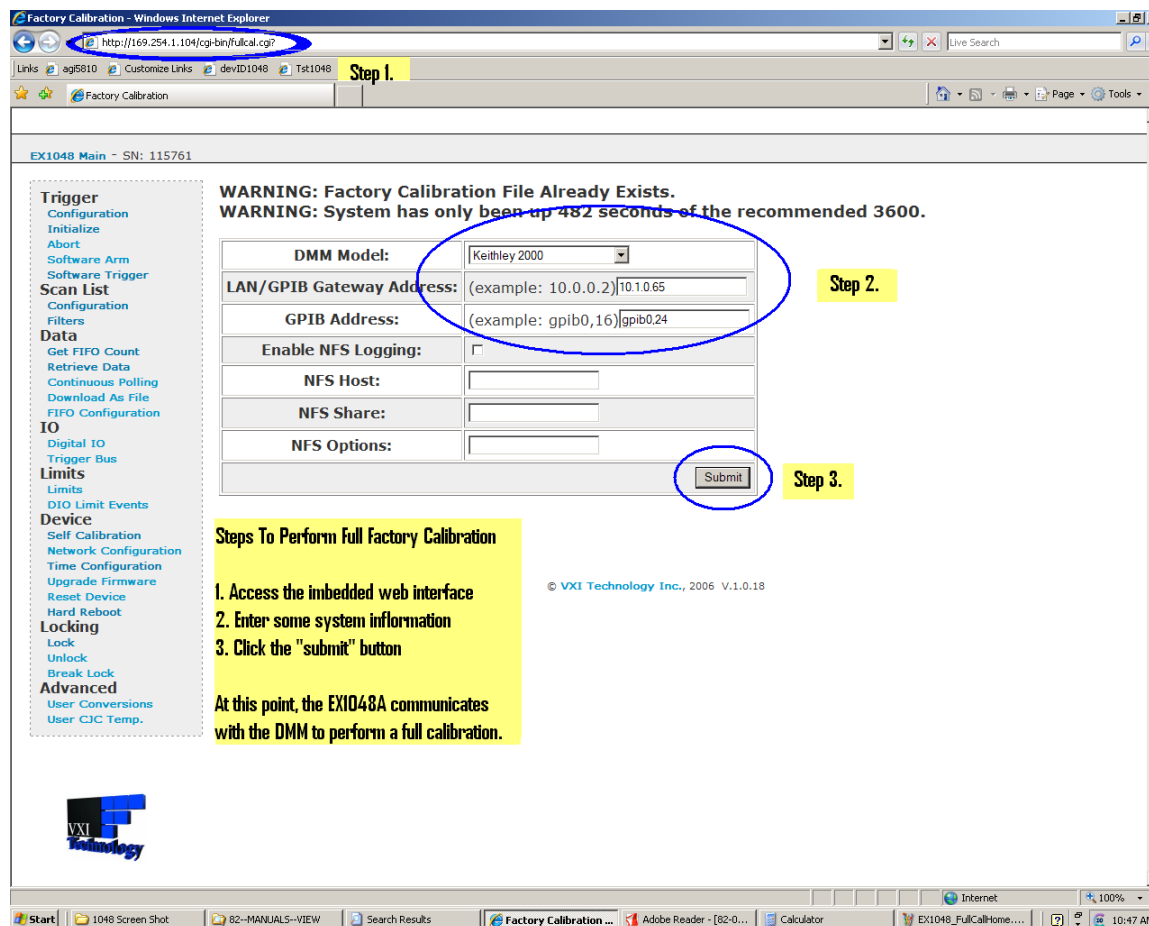

Figure 3 – Full Calibration Web Interface
3. Access the EX1048A's web interface via web browser by entering its IP address (Step 1, Figure 3).
4. Select the specific model of the traceable voltmeter from the pulldown menu (Step 2, Figure 3).
5. Enter the IP address of the voltmeter (Step 2, Figure 3).
6. Click a button on the web interface to perform full calibration (Step 3, Figure 3).